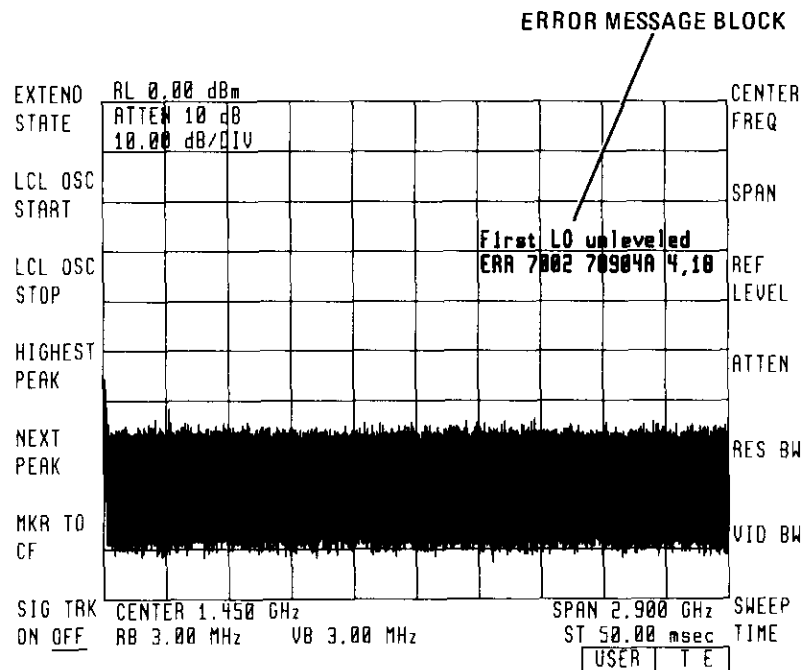
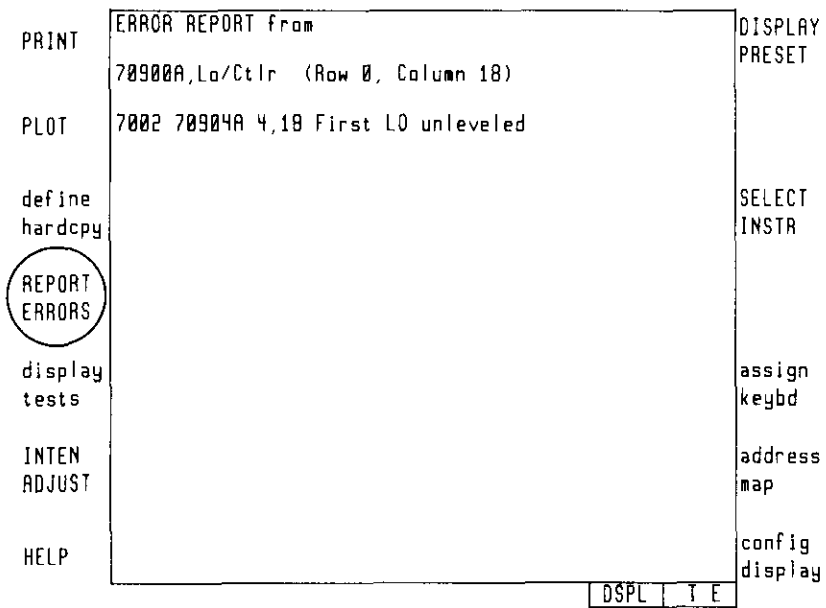

Figure 5-1. Error Reporting
Figure 5-2. Error Report Screen
Elements other than the displays have ERR (error) and ACT (active) indicator lights located on the front panel. Displays have indicator letters, E (error) and A (active), in the display CRT status block. See Figure 5-1.
The local oscillator (LO) writes the error message of the modular spectrum analyzer in the error message block of the LO display window. See Figure 5-1.
The display screen displays the errors being reported by any element at row address 0. See Figure 5-1. The error messages may also be viewed by pressing the display key, then *REPORT ERRORS*. See Figure 5-2.
A master element reports its errors and the errors of its slaves to the same Error Report screen. Error code messages reported by a master show the model number and HP-MSIB address of the element that generated the error. Refer to the error code messages in Figure 5-2.